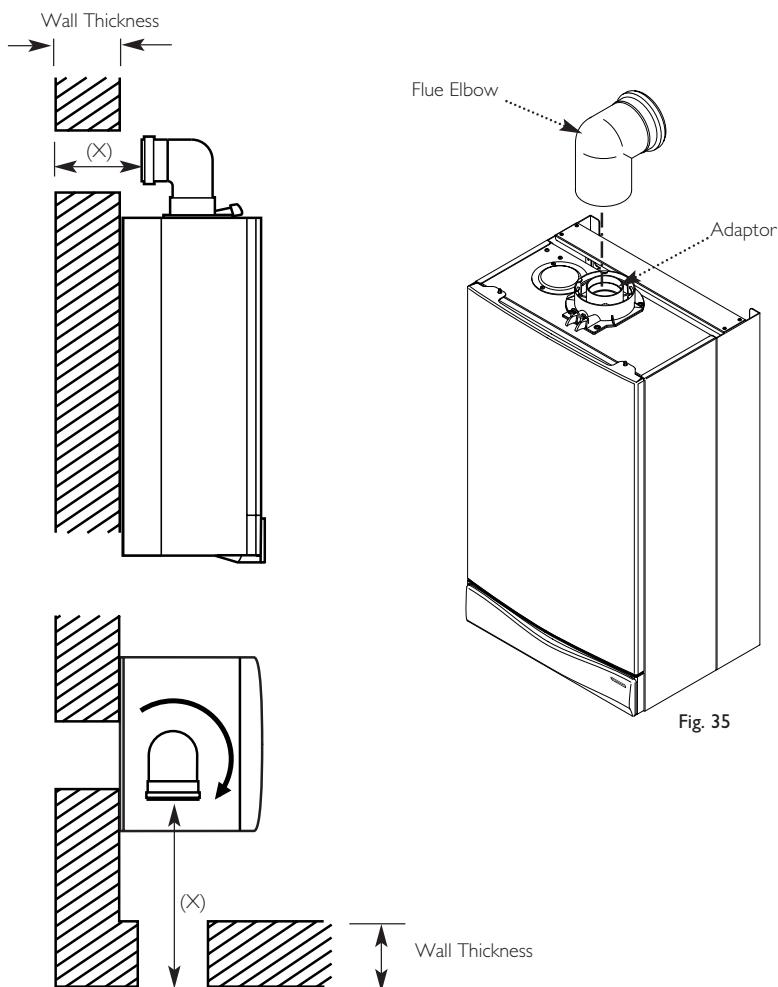

Fig. 36
3. Measure the distance from the outside wall face to the elbow. This dimension will be known as 'X' (Fig. 36).